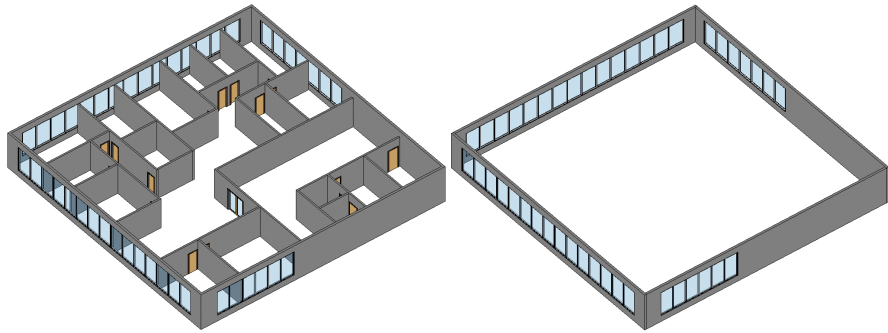

FIGURE 10.16 Worksets Open and Closed
- Open the {3D} view to confirm this and note that the furniture is not visible. Open the Worksets dialog and additionally close the Interior Walls and Doors-Windows worksets. Click OK to return to the {3D} view (Figure 10.16).